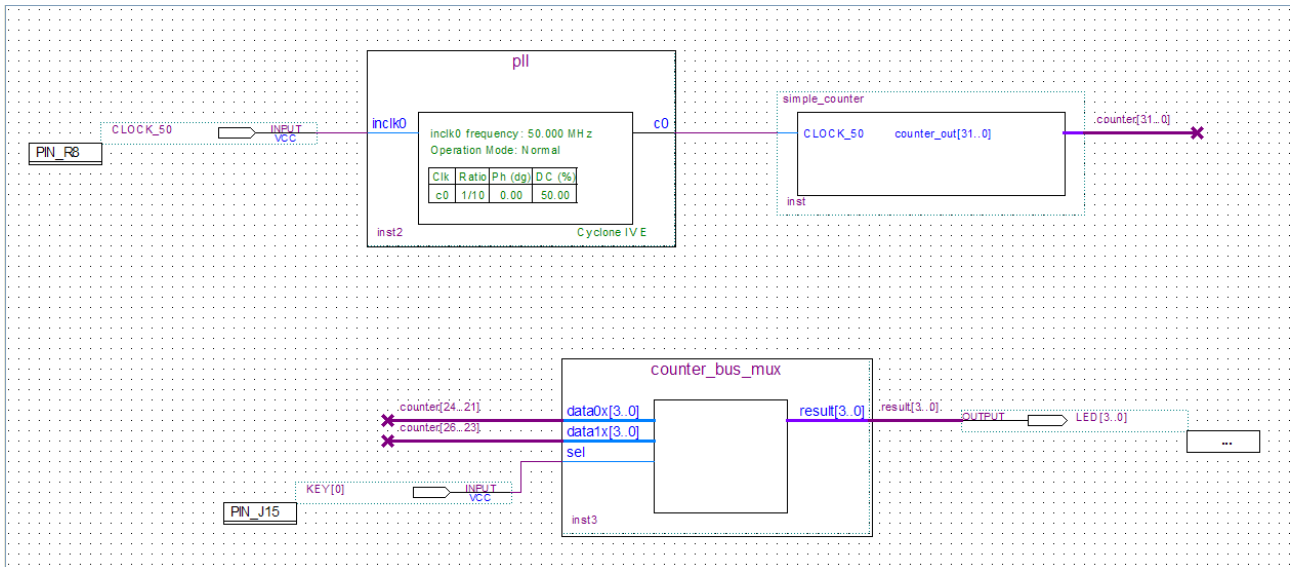

Figure 6-40 Adding the KEY [0] Input Pin
23. Rename the input pin as KEY [0] (see **Figure 6-40**).